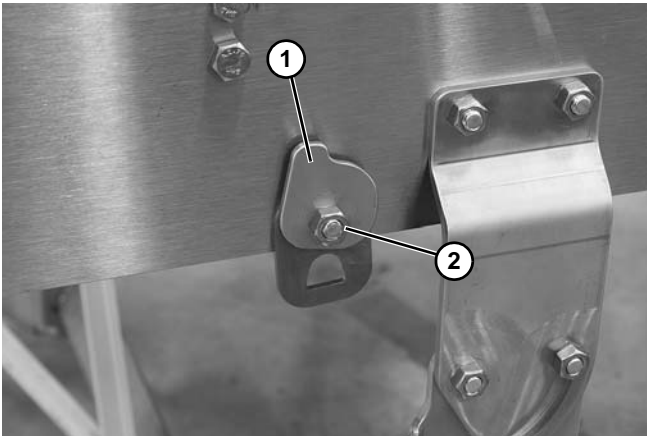

Figure 23
3. Install return clip (Figure 23, item 1) and loosely secure with nut (Figure 23, item 2).